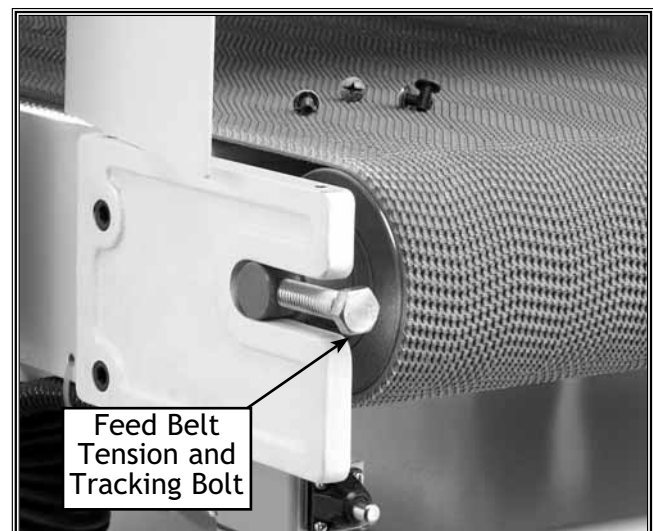

Figure 25. Feed belt tension bolt (shown with the emergency brake and guard removed).
4. Turn the feed belt tension and tracking bolt to position the feed belt roller evenly on each side. See Figure 25.